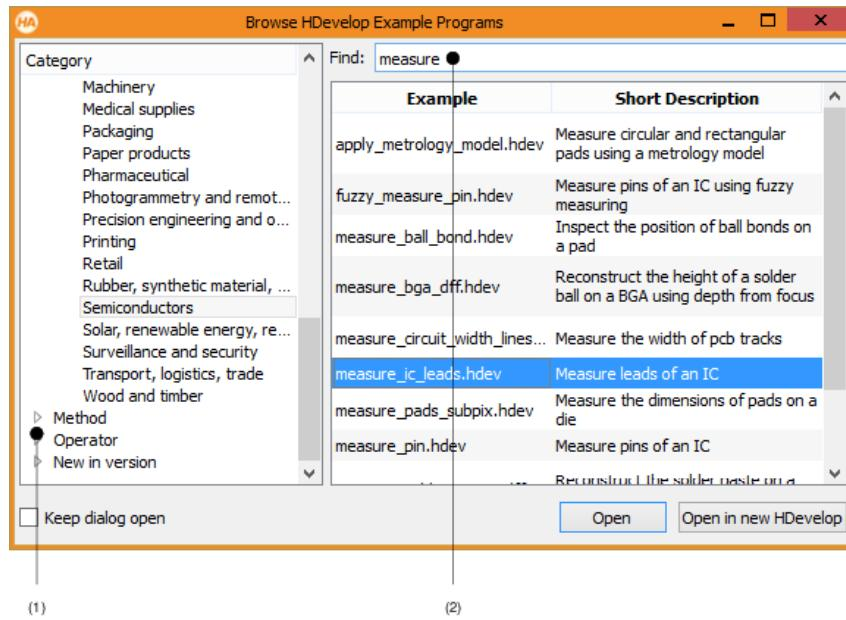

Figure 2.2: HDevelop program examples.
This will open the example program browser (see figure 2.2). Similar to a file browser, it shows a tree of topics on the left and a list of example programs from the selected topics on the right. Sub-topics can be toggled on or off by clicking the corresponding icon (1) or double-clicking the category name.